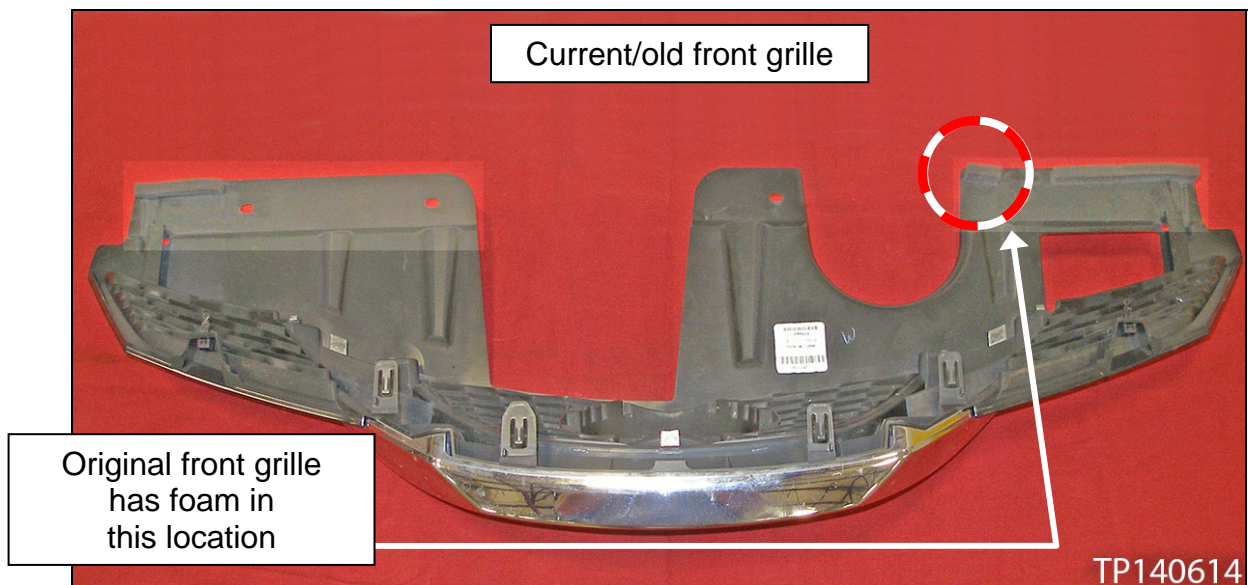
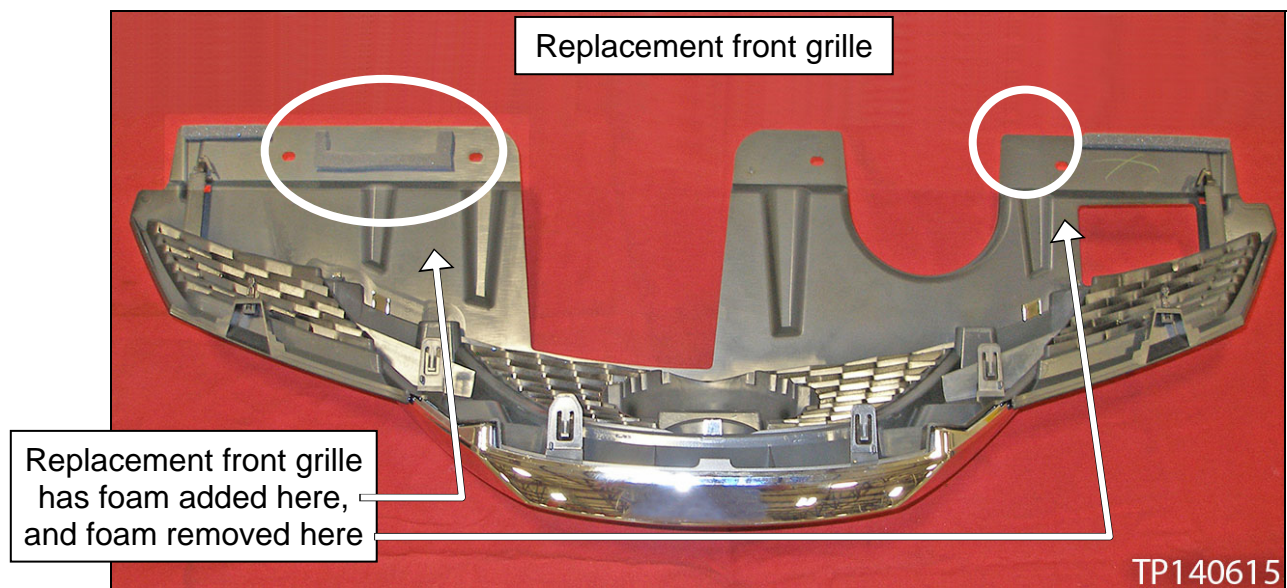

Figure 7
Figure 8
13. Inspect the backside of the front grille for the presence of foam in the locations outlined in Figure 7 and Figure 8.
- If the front grille is determined to be an original grille as shown in Figure 7, replace the front grille with the new one listed in **Parts Information**.
- If the front grille is determined to be a replacement grille as shown in Figure 8, refer to the ESM, section **BODY EXTERIOR, DOORS, ROOF & VEHICLE SECURITY > EXTERIOR > REMOVAL AND INSTALLATION > FRONT GRILLE** for front grille installation.